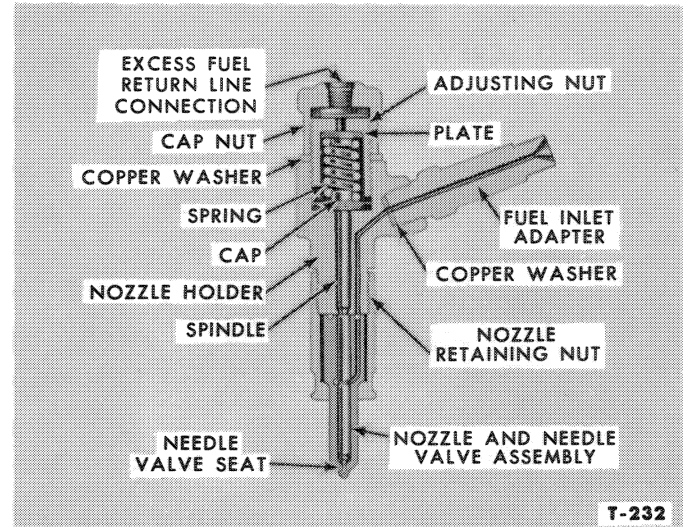
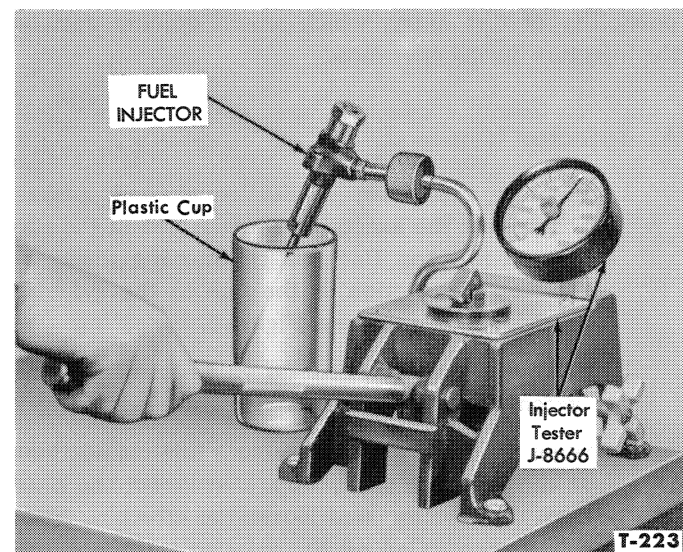

Figure 7—Fuel Injector—Sectional View
Figure 8—Checking Nozzle Opening Pressure
1. Connect the injector to the Injector Test Fixture J 8514. Pump the handle of the tester and observe the gauge reading at which the nozzle opens, Figure 8. The nozzle opening should be 2750 psi plus or minus 50 psi. To adjust the pressure, remove the injector cap nut and tighten or loosen the spring adjusting nut, Figure 7, as required.
2. Using a plastic cup, pump the handle of the tester and observe the spray pattern, as shown in Figure 8. All four sprays must be similar and spaced at approximately right angles to each other in a horizontal plane. Each spray should be well atomized and spread into about a two inch diameter cone six inches away from the injector.